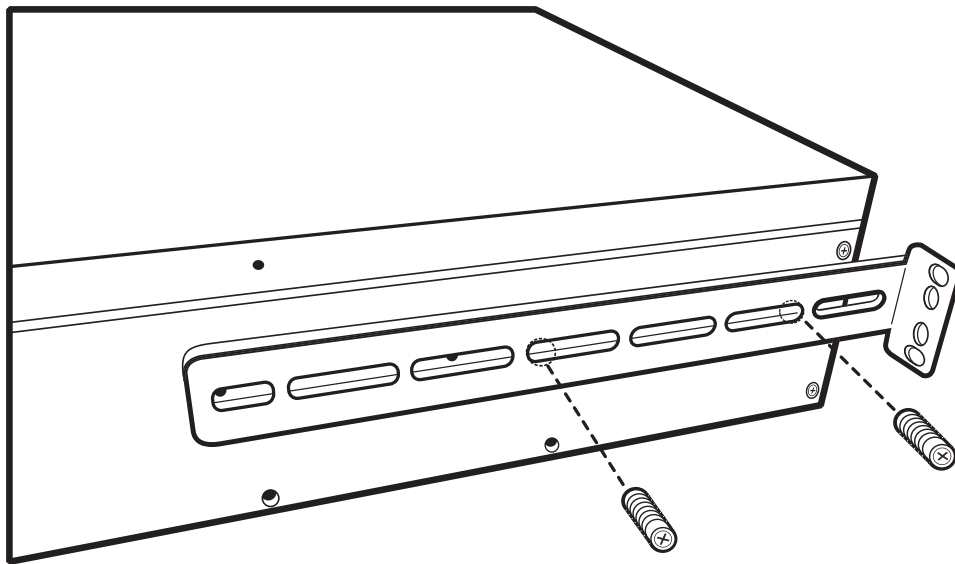

Figure 2.7 Attaching the Rear Brackets to the 7800-CTRL
1. Install the fixed brackets on the 7800-CTRL, adjusting their position in accordance with the equipment rack depth. See figure 2.7 on page 18.